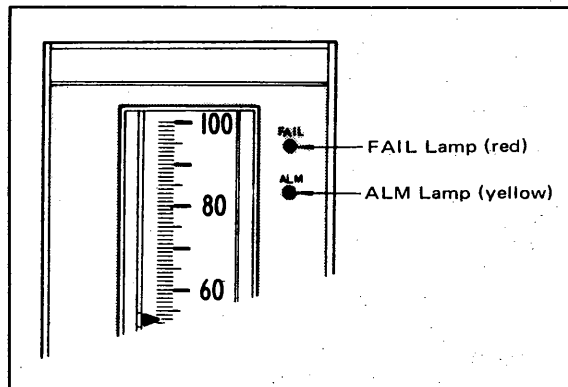

Figure 5-13. FAIL and ALM Lamps.
(1) Alarm Checking (See Figure 5-13.)